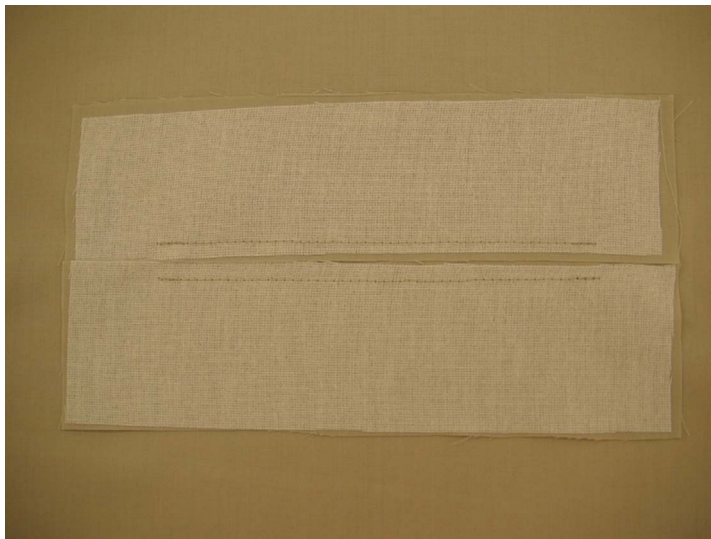

Figure 28
3. Now, position the second jet by butting it close to the first jet edge and attach it in the same manner, ensuring that the lines of stitching are parallel (see Figure 28).